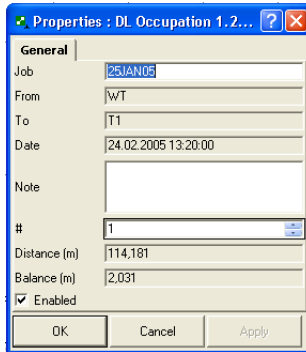

Figure 5-111. General Properties
2. View or edit *General* tab fields. Edit the name, order and note of the job, as needed (Figure 5-111 on page 5-78).
2. View or edit *General* tab fields (Figure 5-111). Edit the *Start Point* and *End Point* parameters as needed.